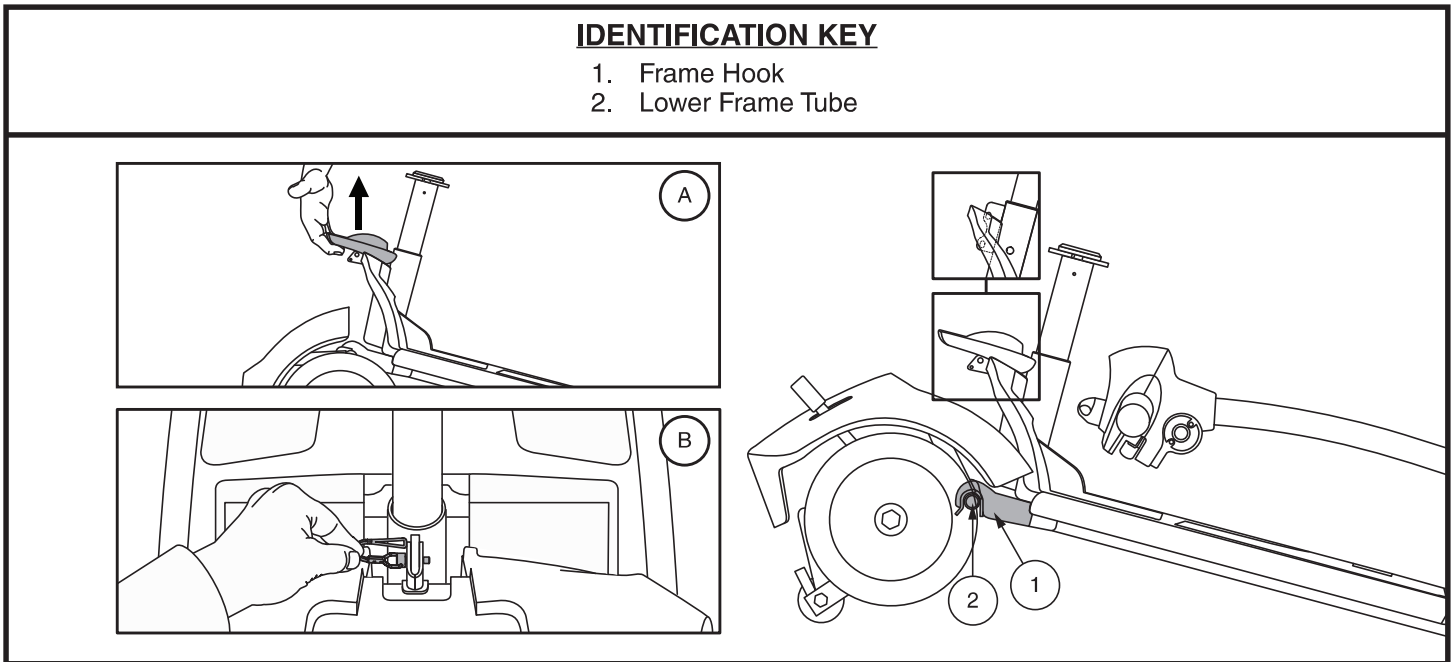

Figure 20. Frame Release Lever
3. Slowly separate the two sections of the Travel Scooter. See **figure 20**.
NOTE: Before attempting assembly, tilt the rear half of the Travel Scooter slightly back on the anti-tip wheels as shown in figure 20.
1. Use the frame release lever to lift the front section as you align the frame hooks of the front section with the lower frame tube of the rear section. See **figure 20**.
2. Once the frame hooks are over the lower frame tube, lower the front section and pivot the rear section simultaneously. This will engage the frame lock-up automatically. See **figure 20**.